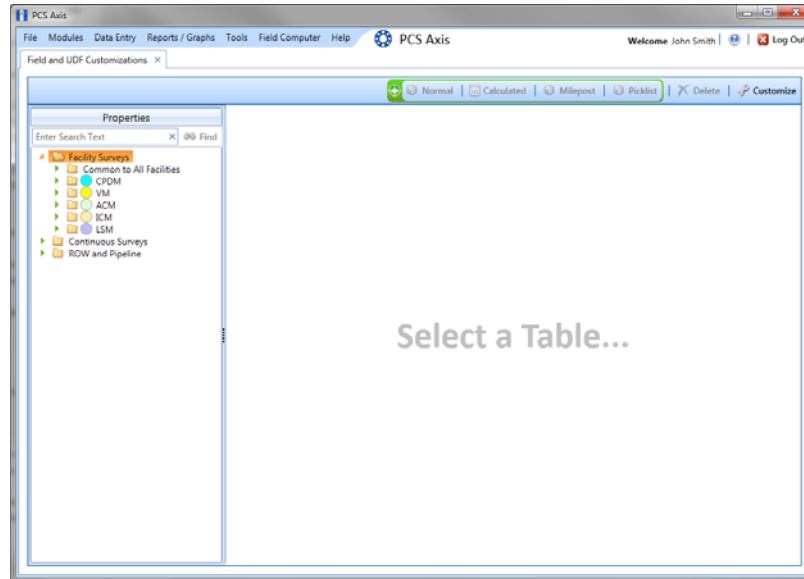

Figure 2-16. Field and UDF Customizations
- 1 Click **Tools > Field and UDF Customizations** to open the *Field and UDF Customizations* window (Figure 2-16).